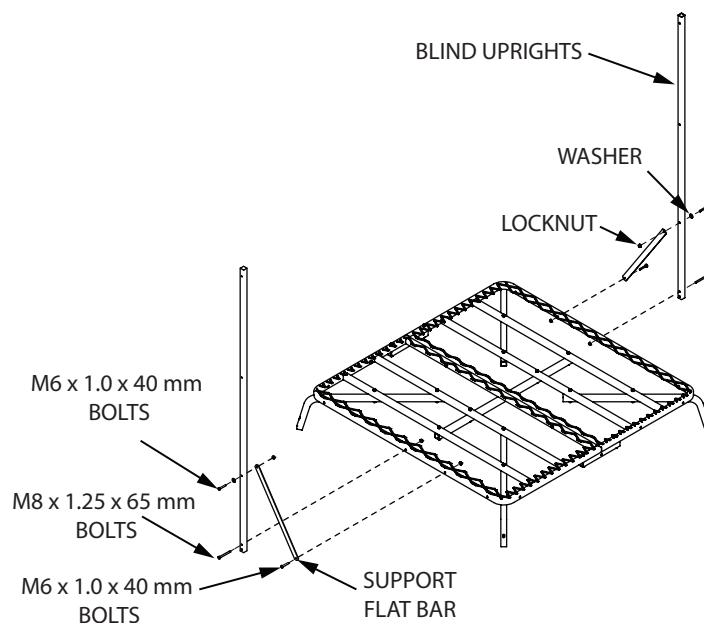

FIGURE 3
5. Attach (2) blind uprights (TWR18) to the long sides of both platforms using (2) provided M8 x 1.25 x 65 mm bolts and locknuts. **SEE FIGURE 3**
7. Attach (4) upright support flat bars (SL8) to the blind uprights and platform using (8) provided M6 x 1.0 x 40 mm bolt, locknuts and (4) washers. **SEE FIGURE 3 & 4**